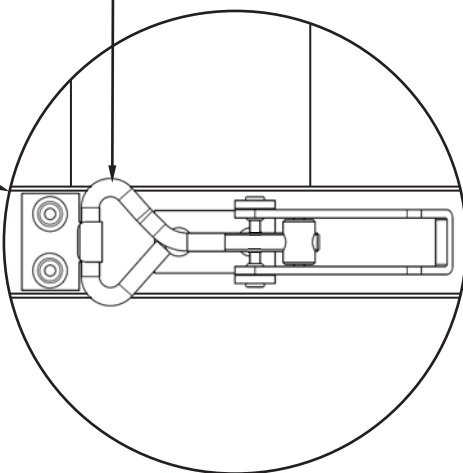

Figure 13
Step 3: Lock the bag firmly by the stainless steel belt (Figure 13).